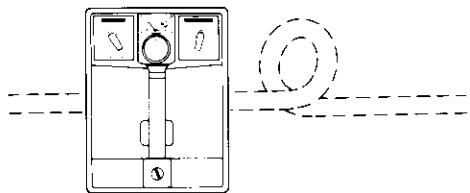

Fig. 16 — Slack-Loop or Butt-Splice Location
- (1) Set the RECEIVER MODE selector to PEAK.
- (2) Hold the receiver so the handle is PERPENDICULAR (across) the cable path and the tone from the receiver is minimum (Fig. 16).